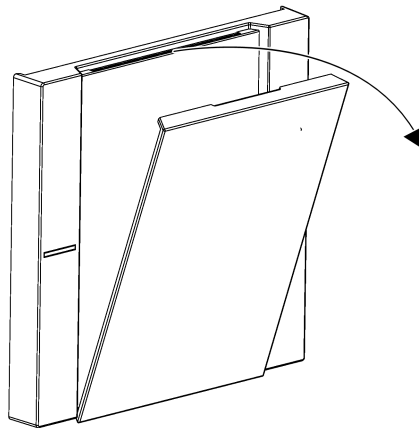

Figure 8: Remove the labelling field cover
- Pull on one side at the notch in the cover of the labelling field to separate from the rocker (see figure 8).